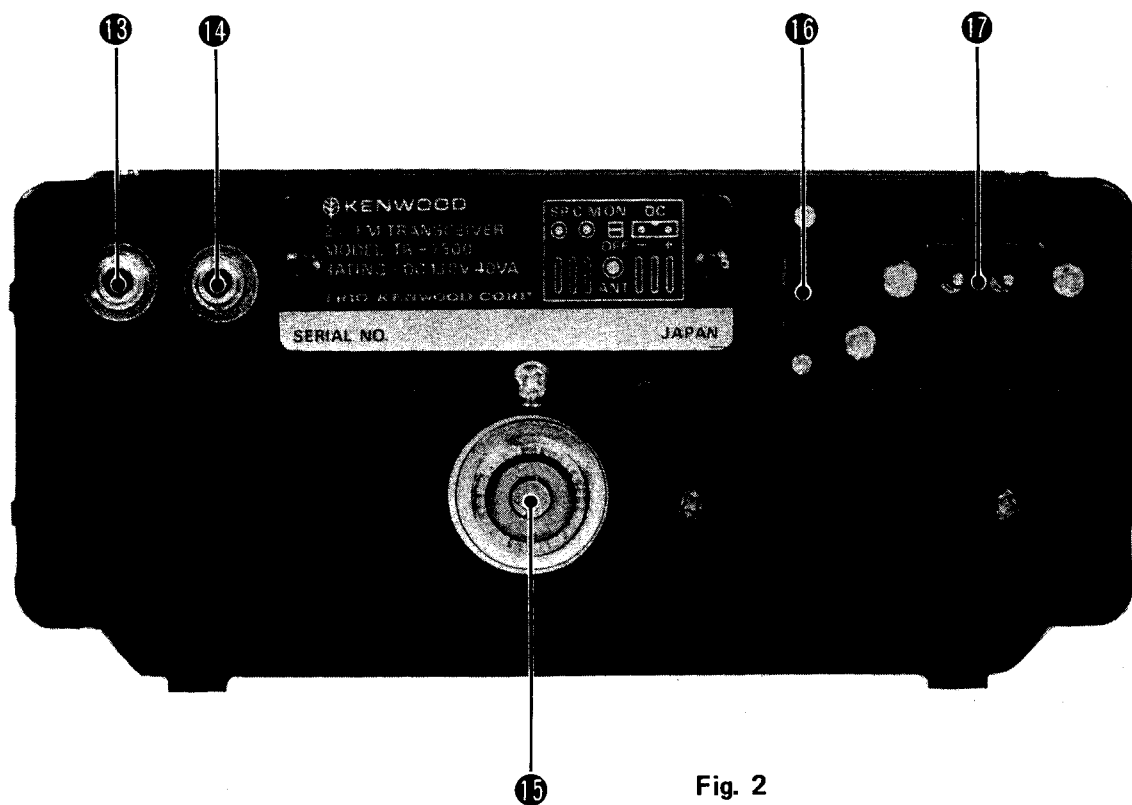

Fig. 2
2.2 REAR PANEL (Refer to Fig. 2)
- ⑬ **EXT SP Connector**